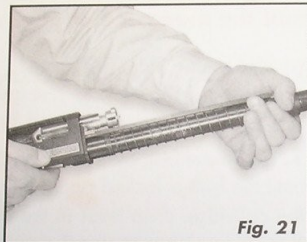

Fig. 21
6. While holding the action bar with your left hand to counterbalance the thrust of the recoil spring, push the carrier release button (Fig. 21) and ease the bolt forward until the recoil spring no longer pushes it forward.